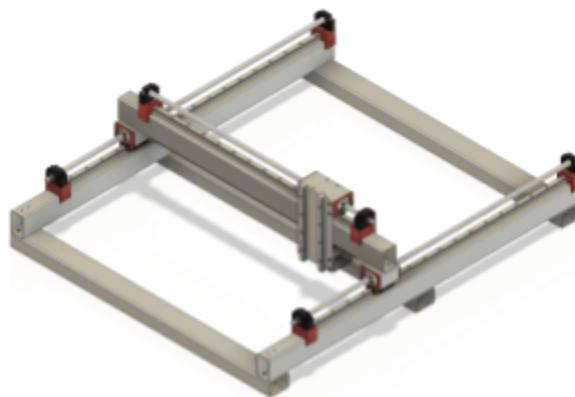

Figure 12.15
16. Finally install a BF12 onto the empty end of the ball screw. Your assembly should look like Figure 12.15.